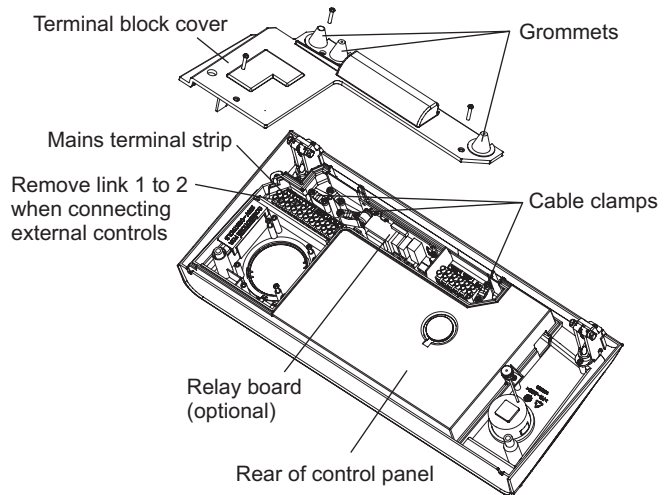

Fig. 23
#### 4.10 CONNECT THE MAINS SUPPLY - Fig. 23
2. **Note:** This boiler has been fitted with a mains supply cable. However, if it is necessary to fit an alternative supply cable, ensure the cable clamp that has been fitted is removed and connect as follows:- Remove the three screws securing the terminal block cover from the back of the control box (see Fig. 23). Pass the mains supply cable through the cable clamp and connect as follows:- Brown to L, Blue to N and Green/Yellow to  $\perp$ . Ensure correct polarity.